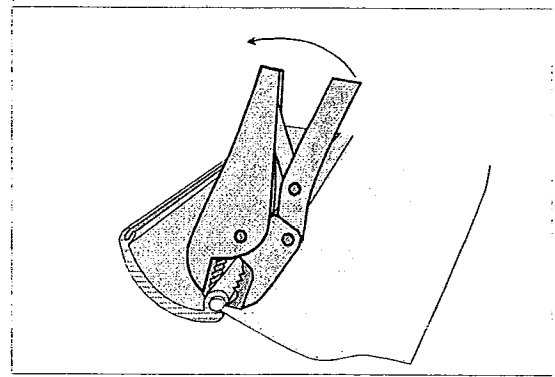

Figure 6
1. Remove screw from each end of cord (after 1/90 only). Some models 2 small screws through the channel and into the cord. Remove these also. (Fig. 6)
2. Using the optional uncrimping tool, as shown in Fig. 6, or a vise grip pliers. Insert tool or pliers next to, not over each crimp, then rotate the channel open. Open the channel just enough to be able to shift the fabric. When all the crimps have been opened, slide the fabric out of the channel.